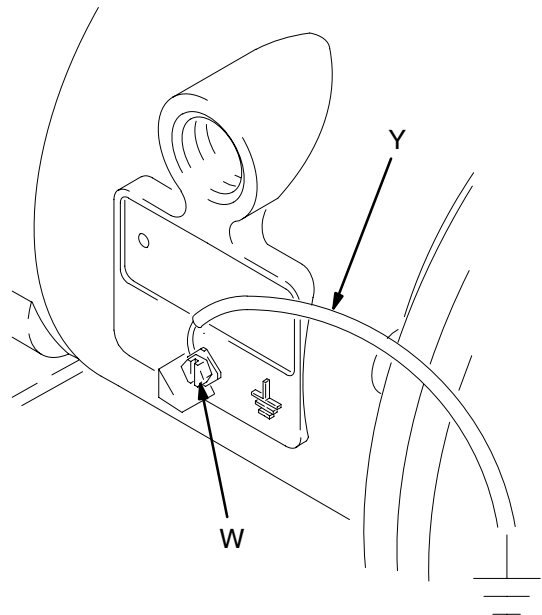

Fig. 1
- **Pump:** Connect a ground wire and clamp as shown in Fig. 1. Loosen the grounding screw (W). Insert one end of a 12 ga (1.5 mm²) minimum ground wire (Y) behind the grounding screw and tighten the screw securely. Connect the clamp end of the ground wire to a true earth ground. Order Part No. 222011 Ground Wire and Clamp.